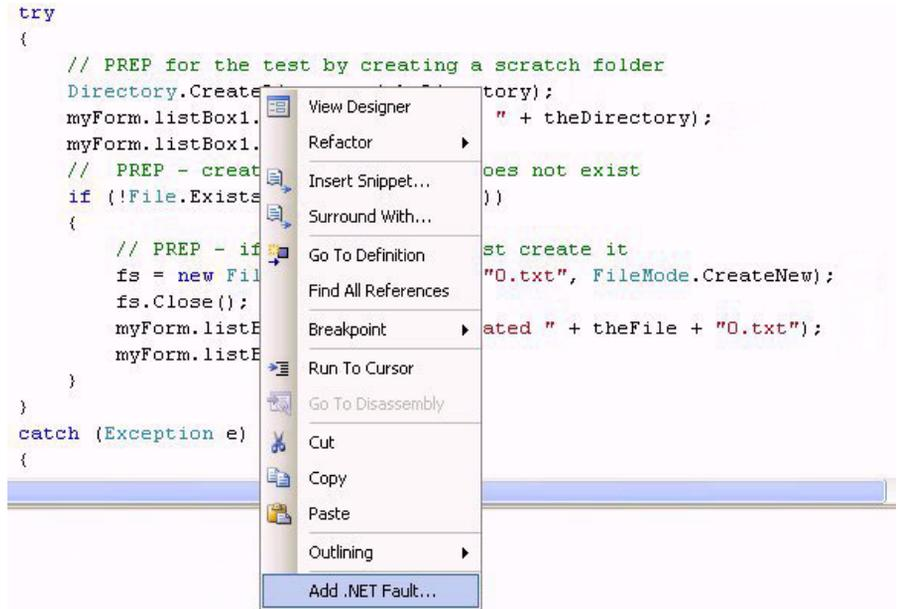

Figure 7-2. Shows the Context Menu to Add a .NET Fault to a Source Statement
- ◆ Right-click on a source window and choosing **Add .NET fault** from the context menu (see Figure 7-2).